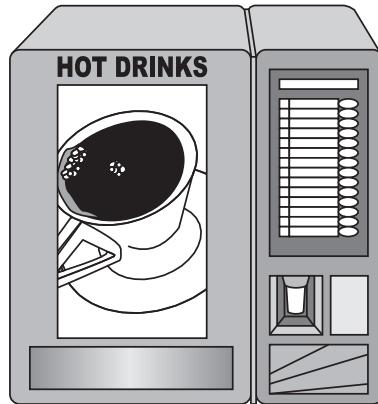

Figure Q4(a)
4. A vending machine for dispensing hot drinks is shown in Figure Q4(a).